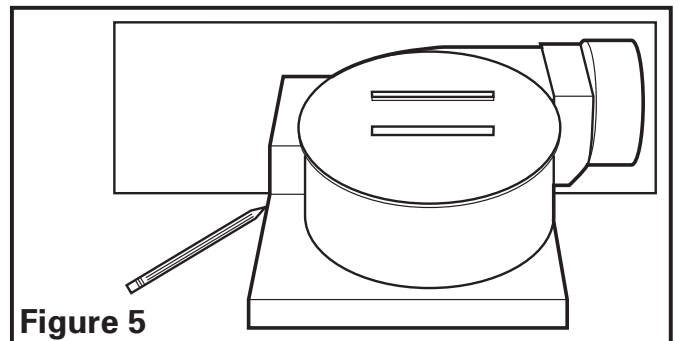

Figure 5
1. Position housing against the joist or stud and trace an outline of the housing onto the ceiling/wall material. Set housing aside and cut opening, being careful not to cut or damage any electrical or other hidden utilities (Figure 5).